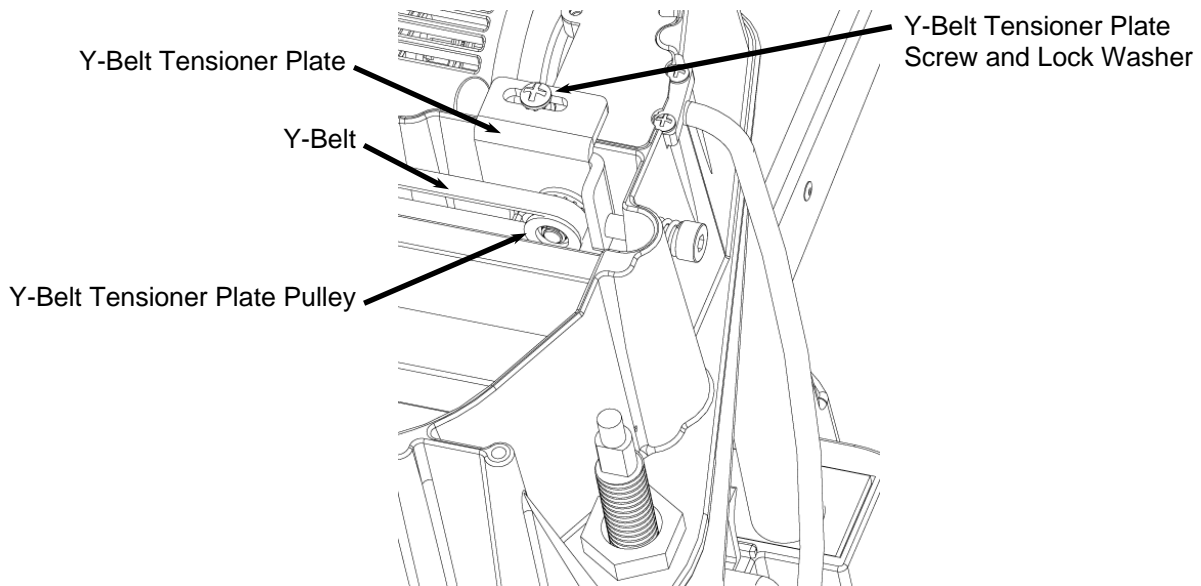

FIGURE 11: VIEW OF THE Y-BELT TENSIONER PLATE
2. **Re-tension the Y-truck belt:** The Y-belt tensioning plate regulates the tension in the belt using a spring so simply tighten the Y-belt tensioner plate screw to lock it in place (See Figure 11).